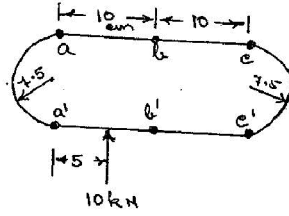

Fig.4
- (b) Find the shear flow of the closed tube shown in the fig.4. The area of stringers are, $a = a' = c = c' = 1 \text{ cm}^2$, $b = b' = 2 \text{ cm}^2$.